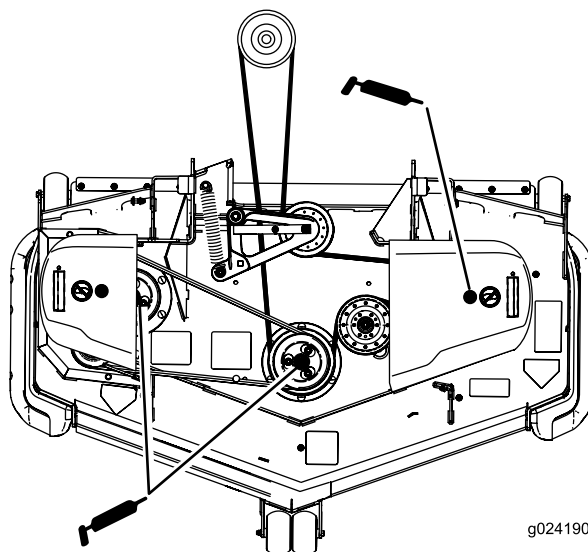

Figure 38
3. Grease the mower deck idler pulley pivot until grease come out the bottom (Figure 38).
4. Grease the three spindle bearings until grease comes out the lower seals (Figure 38).
6. Grease the drive-belt idler arm (Figure 38).